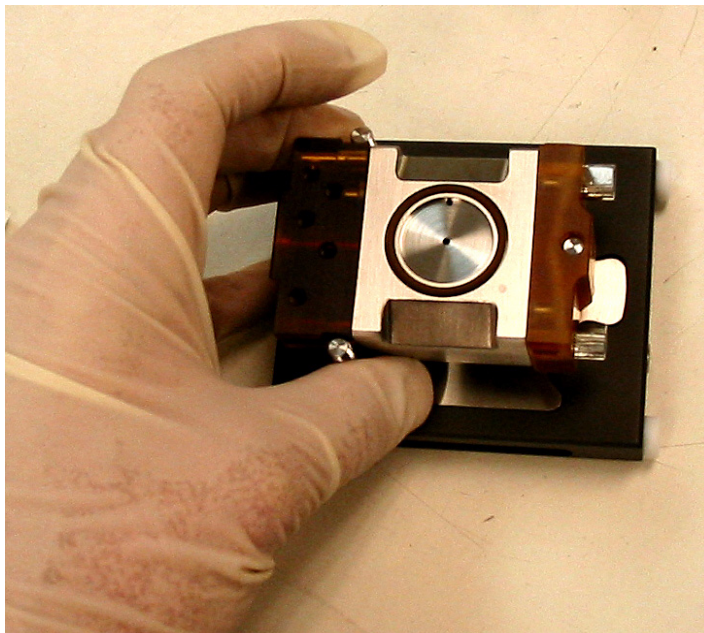

Figure 64. Removing the electrode assembly from its mount
4. Pull the electrode assembly off the mount, as Figure 64 shows.
1. Seat the electrode assembly on its mount, as Figure 64 on page 89 shows. Orient the electrode assembly such that the ion entrance in the outer electrode is up, and the left endcap (with the gas ports) is on the same side as the two holes in the side of the mount.